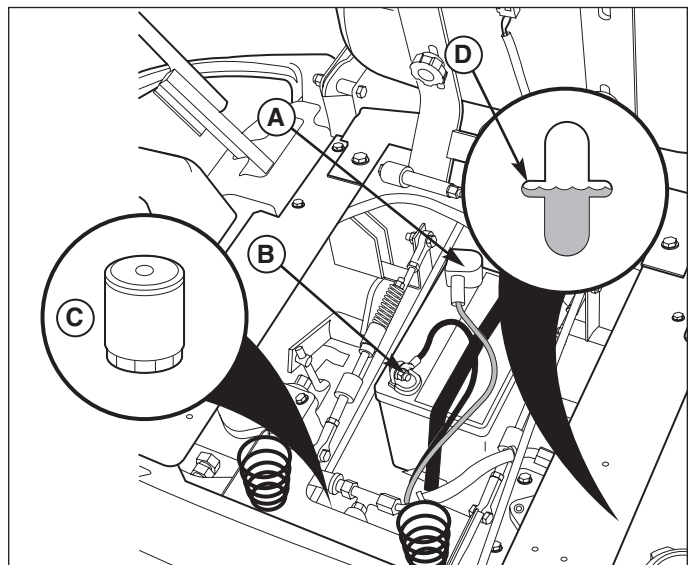

Figure 24. Battery Compartment
1. Locate the transmission oil filter (C, Figure 24) at the rear of the battery compartment under the seat.
5. Run the unit for several minutes and check the transmission oil level (D).